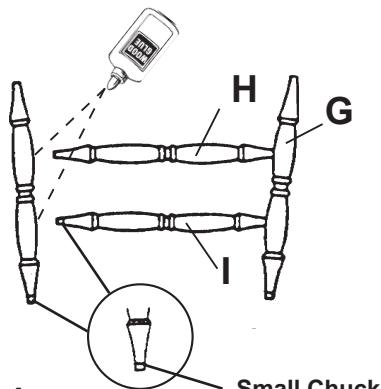
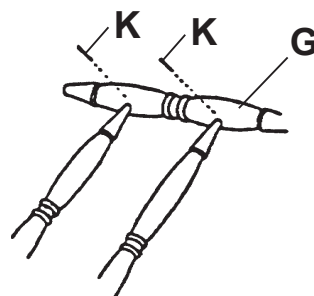

FIG. 4
FIG. 5
- 5) The back center stretcher (I) is shorter and has smaller chucks on both ends. Glue back center stretcher (I) in the smaller hole on the side stretcher (G). Glue the longer front center stretcher (H) in the remaining hole. Twisting the center stretchers will help them go in more easily. Glue the other side stretcher onto the center stretchers. See FIGURE 4. Place assembly on a hard flat surface. Using a nail set, drive two 1" brads (K) into each side stretcher where the center stretchers join them. See FIGURE 5.